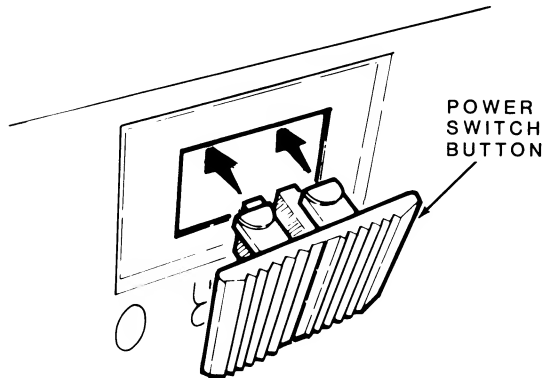

Figure 19-6. On/Off Switch Button Removal
4. Refer to Figure 19-6 and remove the on/off switch button by pulling it out, away from the computer.